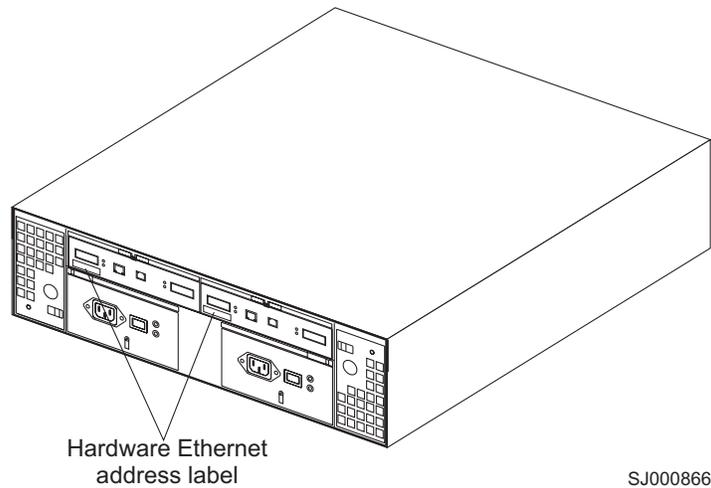

Figure 6. Locating the Ethernet MAC address for machine type 3542
1. Locate the Ethernet MAC address at the back of the unit, under the controller gigabit interface converter (GBIC) ports, as shown in Figure 6. The number is in the form xx.xx.xx.xx.xx.xx (for example, 00.a0.b8.20.00.d8).